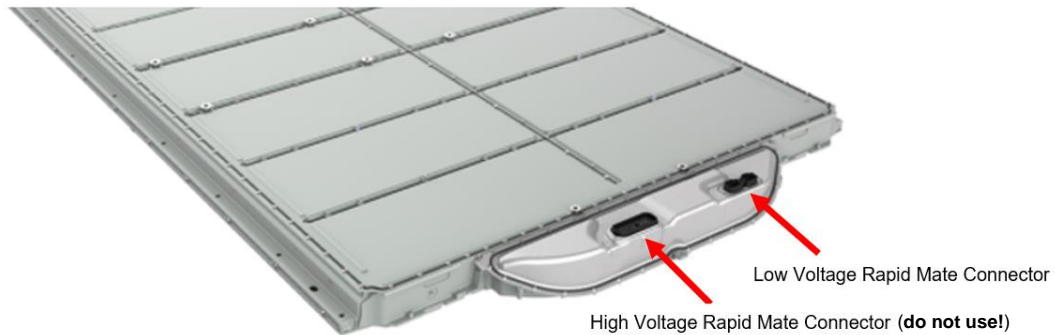

Figure 2 – Rapid Mate connectors (Pre-2021 Model S and Model X)
3. Locate the Low Voltage Rapid Mate/Logic connector on the HV battery (Figures 2 through 4).